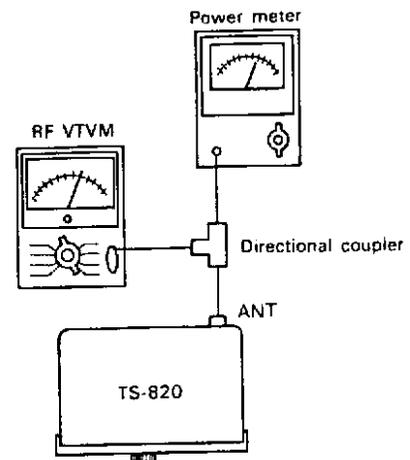

Fig. 34 Adjustment of carrier suppression
- 1) Make connection as shown in Fig. 34 and adjust 14.175 MHz EW until full power is obtained.
- 1) In **Fig. 34**, make adjustment until maximum output is obtained at 21.225 MHz.